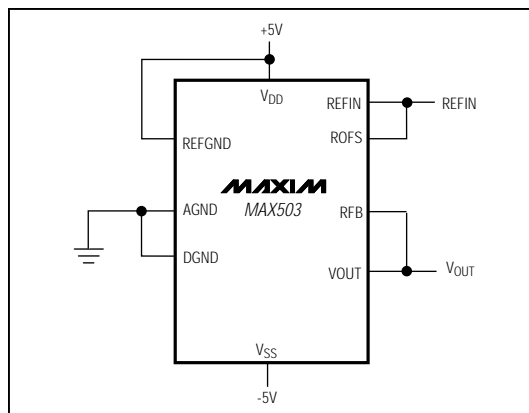

Figure 12. Four-Quadrant Multiplying Circuit
The MAX503 can be used as a four-quadrant multiplier by connecting ROFS to REFIN and RFB to VOUT, and using (1) an offset binary digital code, (2) bipolar power supplies, and (3) a bipolar analog input at REFIN within the range  $V_{SS} + 2V$  to  $V_{DD} - 2V$ , as shown in Figure 12.